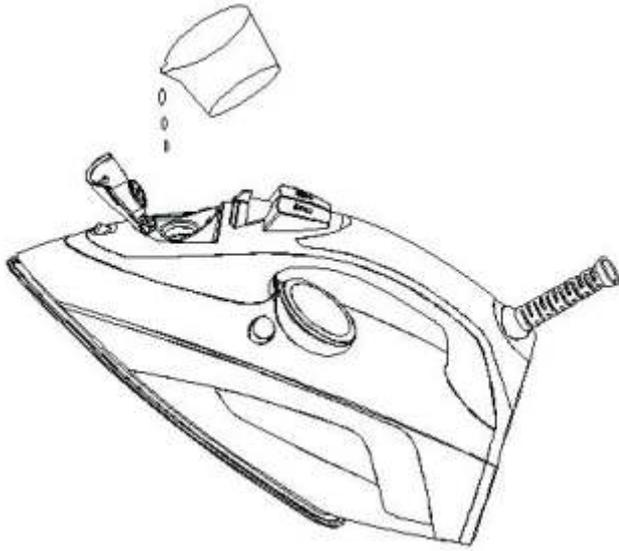

Figure1
1. Hold the iron in a tilted position, then fill proper water into water tank. By measuring cup, you had better use purified water with less calcium particles and make sure not to exceed Max level on the tank. See fig 1.